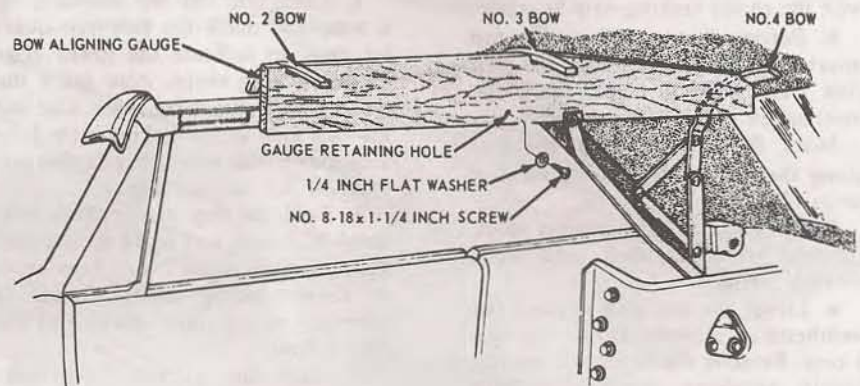
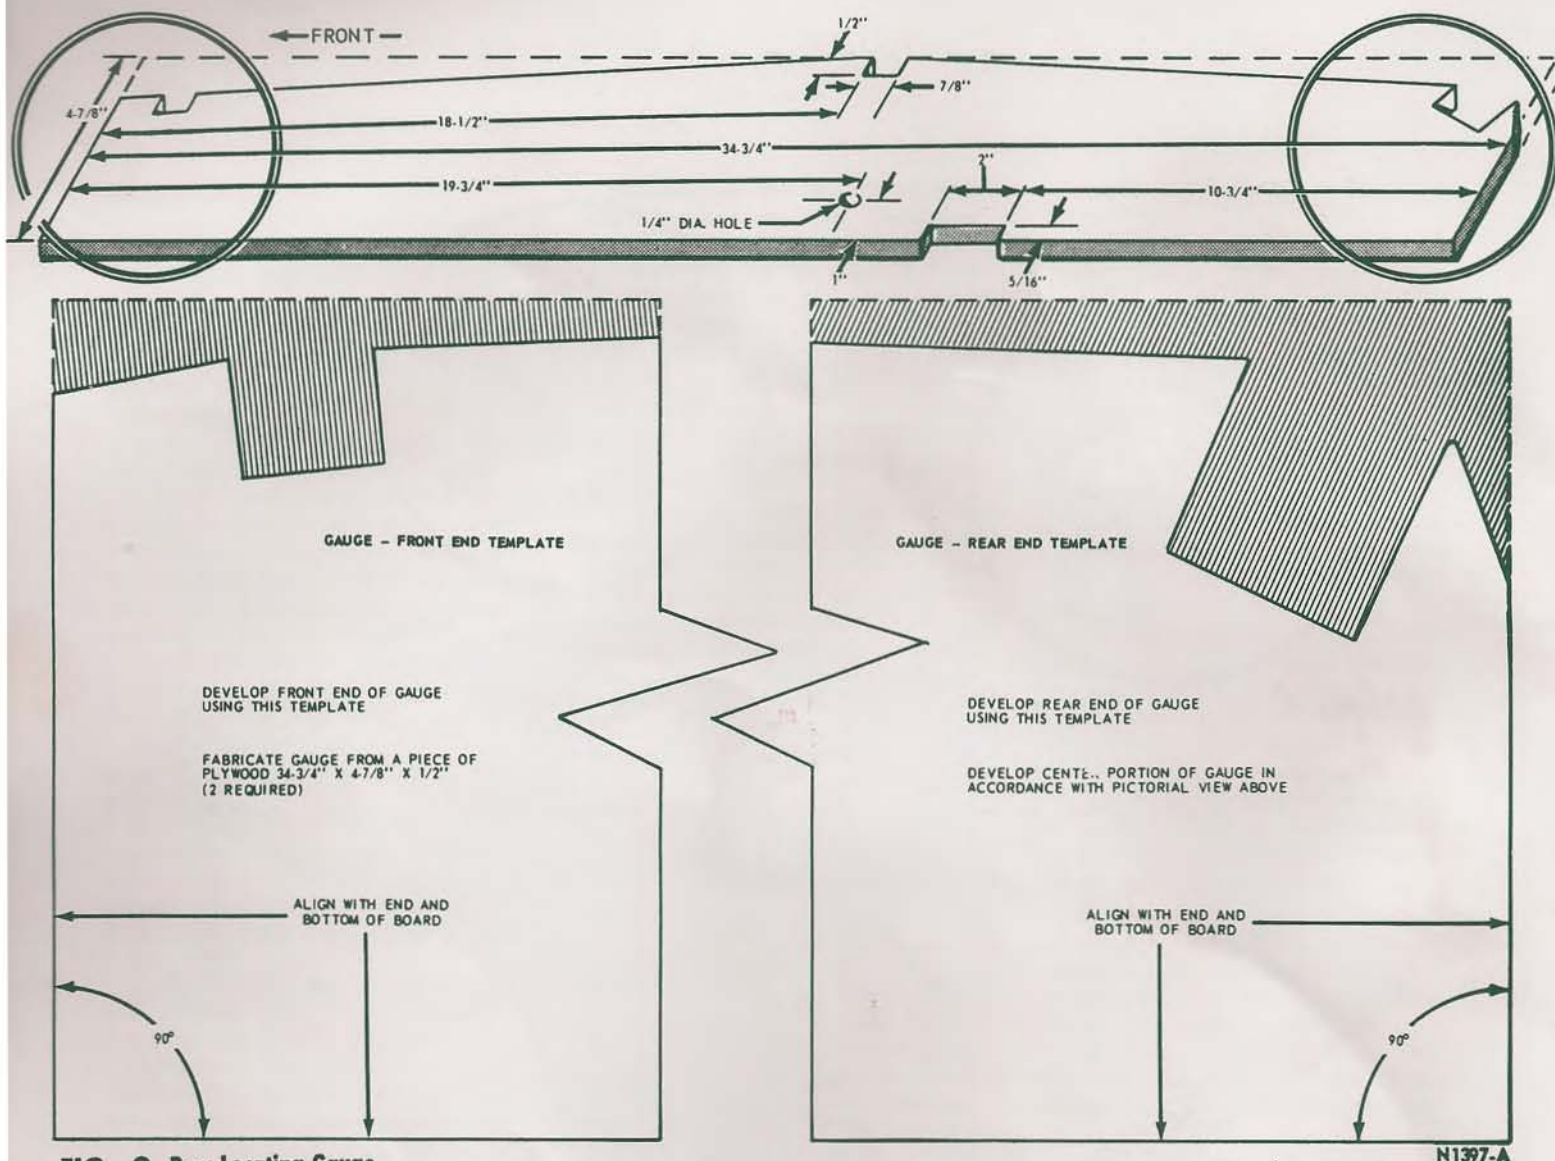

FIG. 10—Bow Locating Gauge Installation
FIG. 9—Bow Locating Gauge
8. Remove both side rail coat hanger hooks and install the two fabricated bow alignment gauges (Figs. 9 and 10). Retain each gauge with a No. 8-18 x 1 1/4-inch pan-head screw and washer (Fig. 10).
Fabricate two bow locating gauges to the dimensions illustrated in Fig. 9.